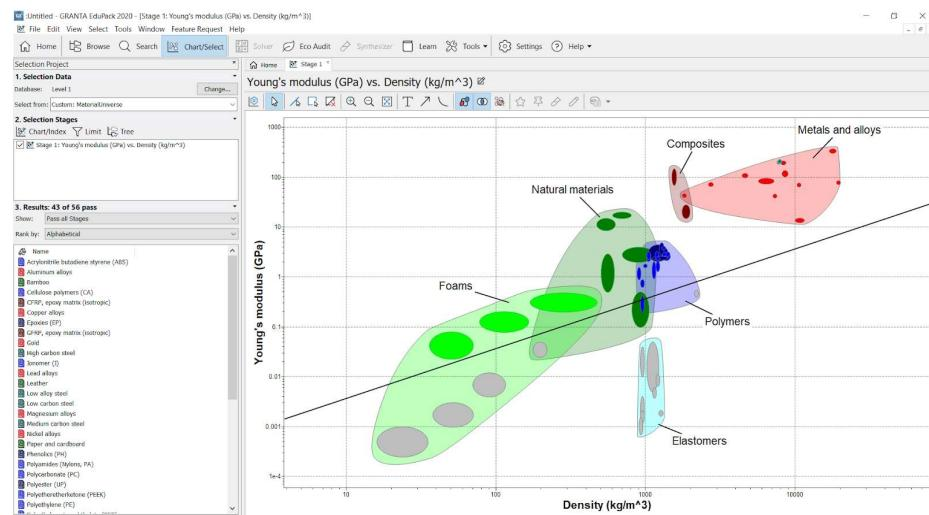

Figure 5. A screenshot of the Granta EduPack interface
- Selecting a material using the ANSYS-Granta EduPack material selector (Figure 5)
Figure 5. Analysis of the decrease for yield strength for UHMWPE fiber because of porous calculations. The positioning of the value below the index line indicates that it falls below the performance required for material consideration.